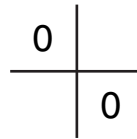

Figure A-1 0/0 intersection
- a. Use the joystick to drive the stages so the 0/0 intersection (see Figure A-1) appears in the Video window.